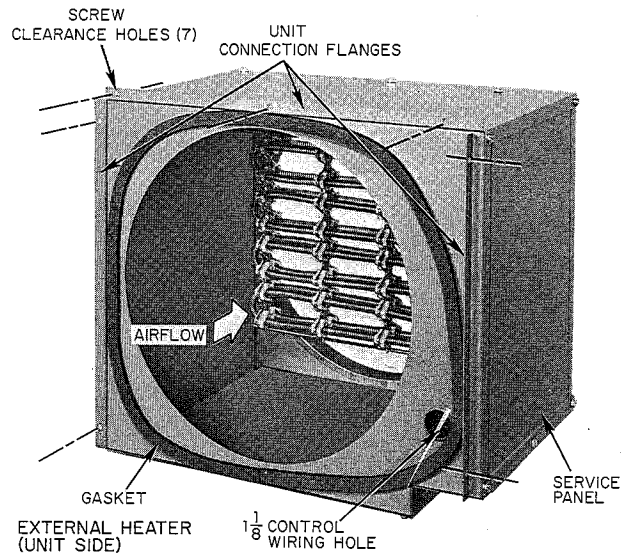
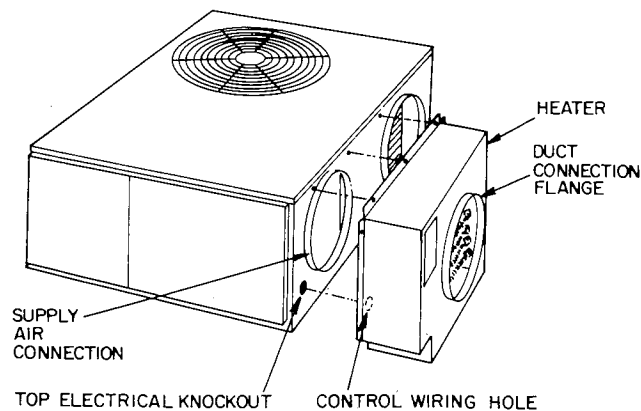

Figure 2—Entering Air Side of External Heater
Figure 6—External Heater Installation
The external heaters are self-locating on the 559B evaporator fan supply air connection. See Figure 6. Flanges are provided on the heater for connection to the 559B with sheet metal screws. See Figure 2. Before installing the heater, ensure the factory-supplied gasket is in place around the heater entering air connection as shown in Figures 2 and 3. Complete installation as follows:
1. Remove top electrical knockout on 559B. See Figure 6.
2. Place heater over 559B supply air connection. See Figure 6.
3. Align control wiring hole in entering air side of heater (Figure 2) with top electrical knockout in 559B. See Figure 6.
4. Drill holes in 559B to align with screw clearance holes in heater flanges. See Figure 2 for location of clearance holes in flanges.
On internal heater installations, extend the control-wiring plug through the hole provided in the 559B control-wiring terminal box and connect to the receptacle. On external heaters, feed the plug through the control-wiring hole provided in the heater cabinet (Figures 2 and 6) and into the 559B. Extend the plug into the 559B control-wiring terminal box and connect the plug to the receptacle.